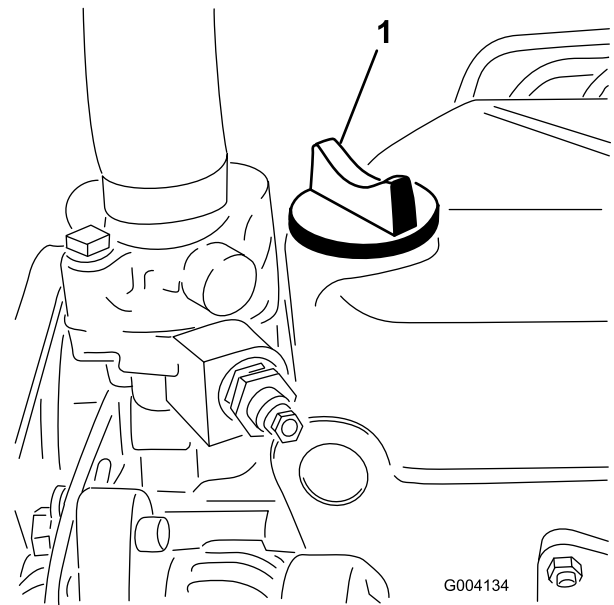

Figure 31
5. If the oil level is below the FULL mark, remove the fill cap (Figure 31), and add oil until level reaches the FULL mark on the dipstick.